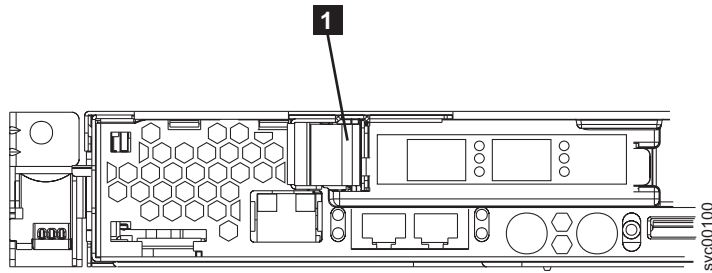

Figure 195. SAN Volume Controller 2145-8F4 or SAN Volume Controller 2145-8F2 PCI slot 1 card retainer
- Pull the blue PCI card retainer **1** from the rear of the node, shown in Figure 195 on page 527.